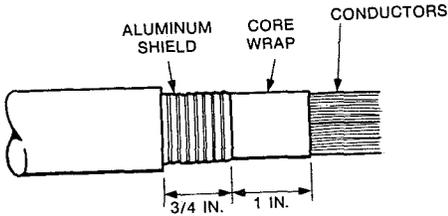

Figure 4. Cable Sheath Preparation
- 4.08 Cut the aluminum shield (Figure 4) 3/4 inch from the paper tape marker and remove from the cable. Remove the paper tape marker.
- 4.10 Cut the aluminum shield (Figure 4) 3/4 inch from the paper tape marker and remove from the cable. Remove the paper tape marker. Place a wrap of 3/4 inch vinyl tape around the aluminum shield to prevent damage to the nipple of the multiple cap when pulling tip cables into the cap.
4.15 Remove the core wrapper from the main cable to within 1 inch of the aluminum as shown in Figure 4. Tape the ends of the main cables to hold the binder units intact.
- 4.19 Remove the core wrapper from the tip cables to within 1 inch of the aluminum shield as shown in Figure 4, then cut and fold back the aluminum shield on each side of the overlay.